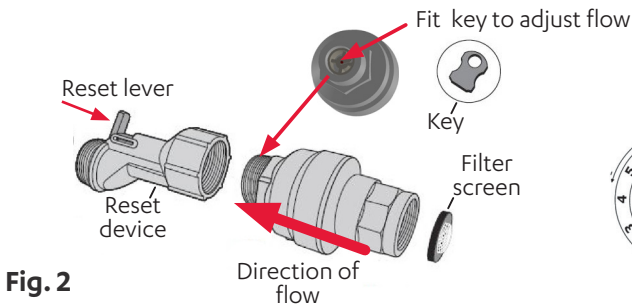

Fig. 2
- The adjustment key (see Fig.2) should be used to adjust the pointer.
- Ensure that the direction of flow through the Water Block is correct and that the filter screen (see Fig.2) is inserted correctly with the convex surface facing towards the water supply.
- The reset device (see Fig.2) may be fitted to avoid disconnection. This allows the Water Block to be reset by operating the lever in the direction shown in Fig.2.